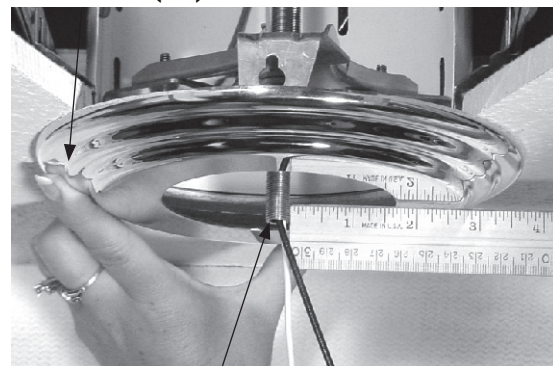

FIGURE 8
1. Using medallion as guide, place medallion on ceiling and lower threaded pipe (G) to 1/4" below medallion then tighten nut (I) to secure. (SEE FIGURE 8)